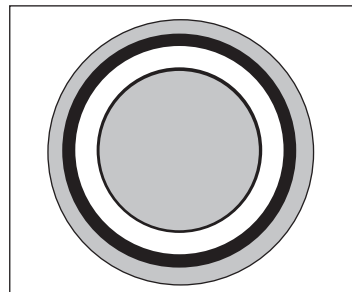
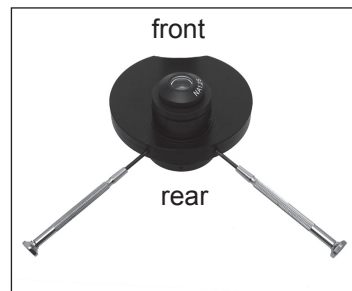

Figure 10
Figure 11
- 8 Insert a small slotted screwdriver into one of the two access slots in the rear of the condenser (figure 11) to access the adjustment screws (or preferably use two screwdrivers at the same time, one in each access slot). While looking through the centering telescope, watch the white ring move as you turn the adjustment screw(s) in either direction. You will need to make adjustments to one or both of the screws in order to properly overlap the black annulus ring with the white ring (figure 10). If you're having problems discerning the rings from the background or from internal reflections make sure that the telescoping eyepiece is properly focused and that the substage height is adjusted correctly.